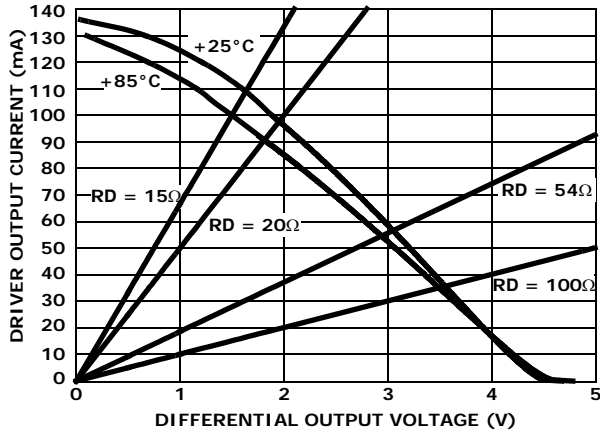

FIGURE 8. DRIVER OUTPUT CURRENT vs DIFFERENTIAL OUTPUT VOLTAGE
- See Figure 8 for more information, and for performance over-temperature.
Another advantage of the large V_{OD} is the ability to drive more than two bus terminations, which allows for utilizing the ISL315xE in "star" and other multi-terminated, "nonstandard" network topologies. Figure 8, details the transmitter's V_{OD} vs I_{OUT} characteristic, and includes load lines for six (20 Ω) and eight (15 Ω) 120 Ω terminations. The figure shows that the driver typically delivers 1.65/1.5V into 6/8 terminations, even at the worst case temperature of +85°C. The RS-485 standard requires a minimum 1.5V V_{OD} into two terminations, but the ISL315xE delivers RS-485 voltage levels with 3x to 4x the number of terminations.